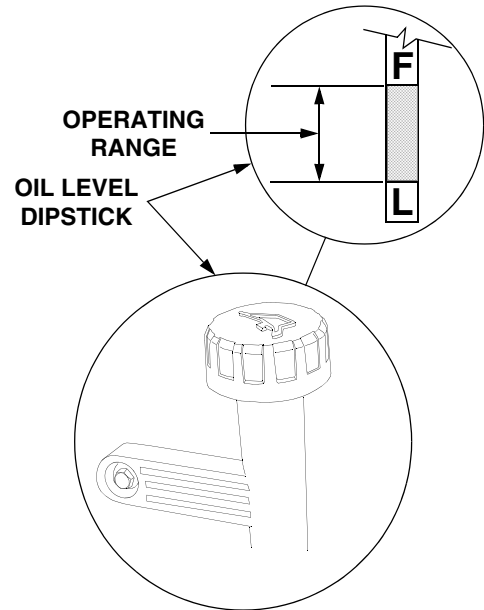

Figure 18
Regularly checking and maintaining the engine oil level in the crankcase cannot be overemphasized. Close monitoring of the oil level during the first 10 hours of operation is especially important. Referring to Figure 18, check the oil level **BEFORE EACH USE** as follows:
3. Remove the oil fill cap/dipstick from the oil fill tube and SLOWLY pour oil into the oil fill tube. Fill the crankcase until the oil level reaches the "FULL" mark on the dipstick (Refer to Figure 18).
3. Remove the oil fill cap/dipstick from the oil fill tube and SLOWLY pour oil into the fill tube. The oil capacity is approximately 4 pints. Fill the crankcase until the oil level reaches the “FULL” mark on the dipstick (Refer to Figure 18).